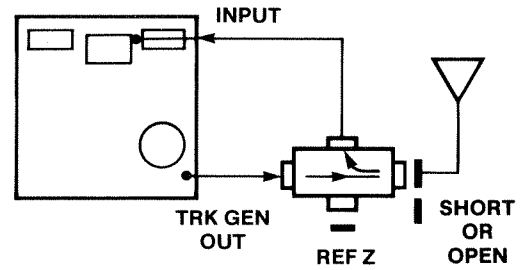

Figure 5
- ⑩ Before measuring the return loss when the antenna is connected to cavities it's a good idea to perform the antenna VSWR test first (See Figure 5 and TG-5).